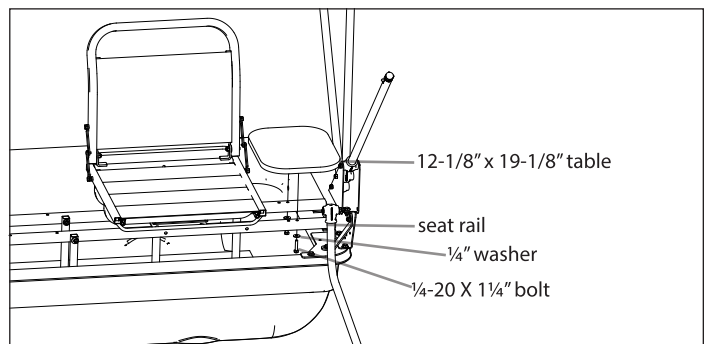

FIGURE 7
11. Locate the (2) 12-1/8" x 9-1/8" tables (11331) and the (1) 17-3/8" x 12-1/2" table. Attach (1) smaller table to the seat rail (14818) using (2) ¼-20 x 1¼" bolts and (2) ¼" washers. Repeat this assembly for the other small table. **SEE FIGURE 7**